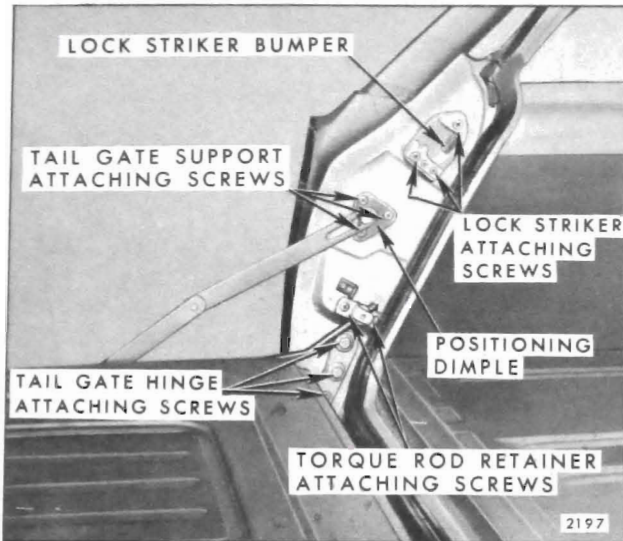
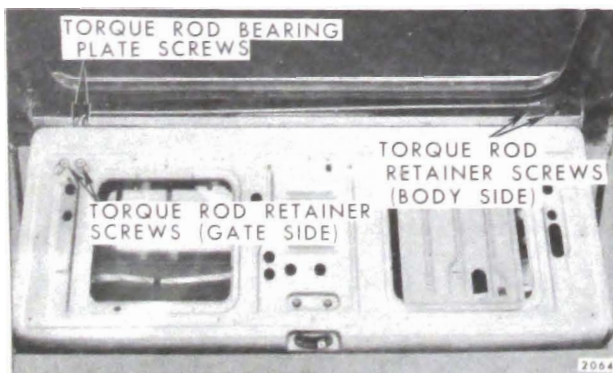

Fig. 9-4—Tail Gate Torque Rod, Hinge and Support Attachments "B & A" Body Styles
Fig. 9-9—Tail Gate Hardware "X" Body Styles
3. Remove tail gate hinge attaching bolts from tail gate and body (See Figs. 9-4 and 9-5) and remove hinge from gate.
2. Remove screws securing support to tail gate and to body lock pillar and remove support. (See Figs. 9-4 and 9-5).
2. Raise tail gate to an approximate vertical position to relieve torque rod tension. Remove torque rod retainer attaching screws and remove retainer. On "B & A" Body Styles, this retainer is on the left body pillar as shown in Figure 9-4. On "X" Body Styles, however, the retainer is located on the right side of the rear body cross bar. (See Fig. 9-9).
2. Remove screws securing torque rod bearing plate to tail gate. (See Fig. 9-5 for "B & A" Bodies and Fig. 9-9 for "X" Bodies).